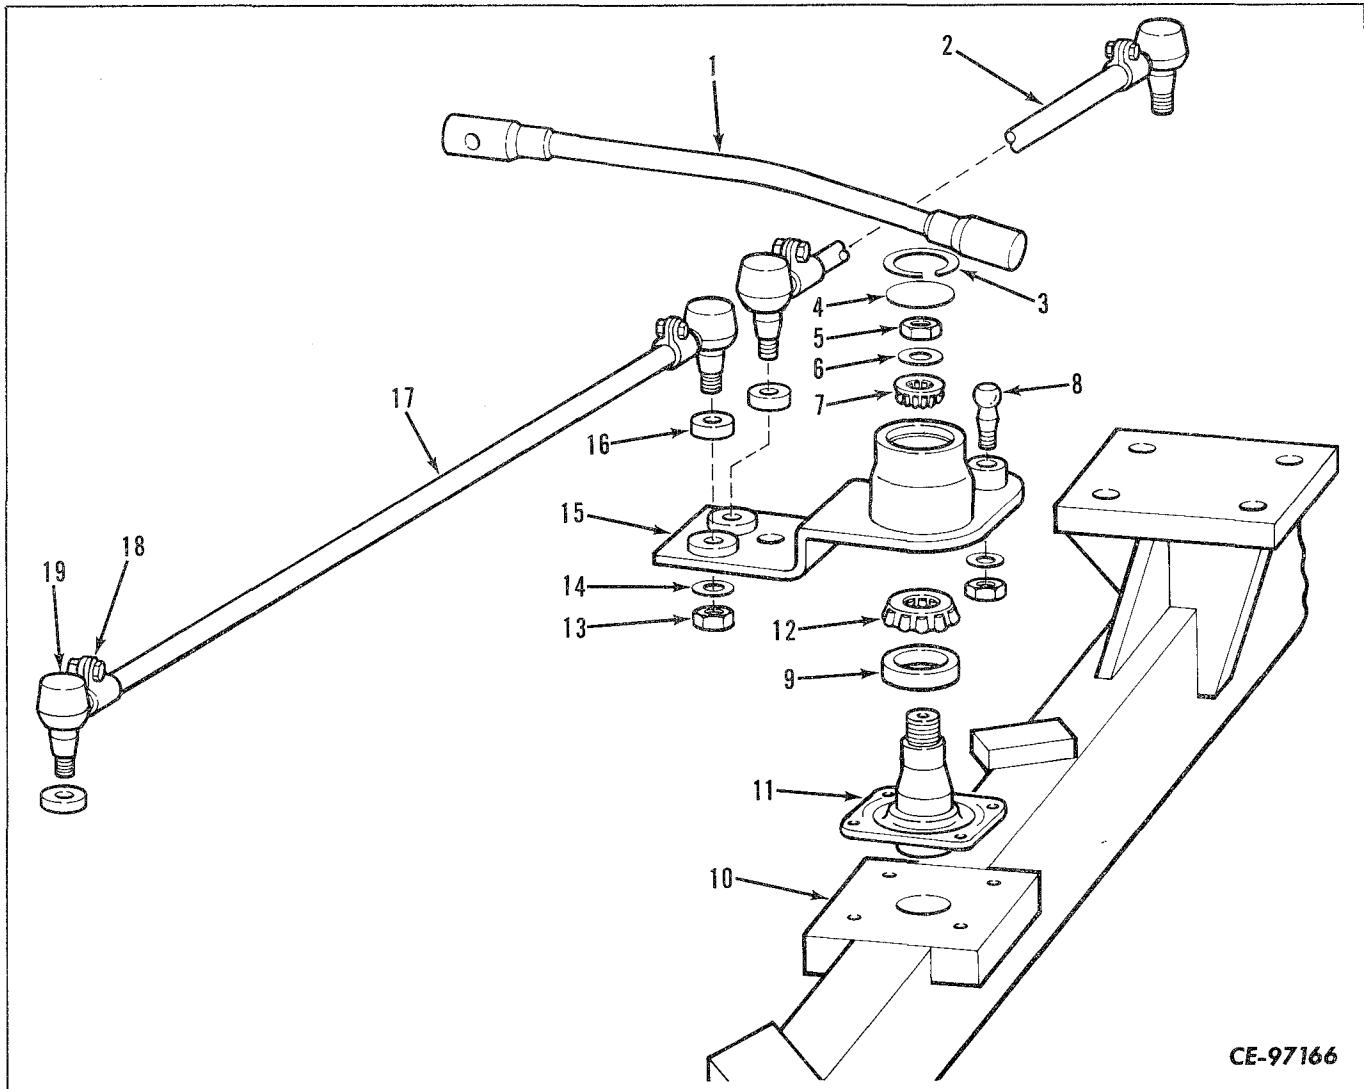

Figure 7-12
Disconnect the drag link (1, Fig. 7-12) from the bellcrank (15) assembly. Disconnect the hydraulic lines to the steering cylinder. Cap the open lines and cylinder ports to prevent the entrance of dirt.
Disconnect tie rods (2, 17, Fig. 7-12) from steering arms (6, Fig. 7-13) at outer ends and from bellcrank (15, Fig. 7-12) at inner ends. Tie rod ball socket assemblies (19) may be replaced if required, by loosening clamp (18) and unscrewing socket from rod. Discard grease seals (16). Disconnect power steering cylinder from axle and bellcrank (15, Fig.
Remove retaining ring (3, Fig. 7-12) and dust cover (4) from bellcrank bore. Remove nut (5), flat washer (6) and small bearing cone (7) from bellcrank bore. Remove bellcrank (15) from swivel pin (11). Remove large bearing cone (12) and grease seal (9) from bellcrank bore. Discard grease seal.
Remove cap screws, lock washers and nuts that secure bellcrank swivel pin (11, Fig. 7-12) to mounting pad (10) on axle. Drag link ball stud (8) need not be removed unless replacement is required.
Secure bellcrank swivel pin (11, Fig. 7-12) to mounting pad (10) with cap screws, lock washers and nuts. Tighten cap screws to recommended torque (refer to "SPECIAL TORQUES").
Install large bearing cone (12, Fig. 7-12) and new grease seal (9) in bellcrank bore. Position bellcrank assembly on swivel pin (11); install small bearing cone (7), flat washer (6) and nut (5). Tighten nut snugly while moving bellcrank back and forth to seat bearings. Back off nut and retighten to eliminate all bearing end play. A slight preload is more desirable than noticeable end play.
Install dust cover (4, Fig. 7-12) and secure with retaining ring (3).
Install tie rods (2, 17, Fig. 7-12) in steering arms (6, Fig. 7-13) and bellcrank (15, Fig. 7-12) using new grease seals (16). Secure tie rods with lock washers (14) and nuts (13). Tighten nuts to recommended torque (refer to "SPECIAL TORQUES").
Attach drag link (1, Fig. 7-12) to drag link ball stud (8). Screw adjusting plug in end of drag link until all end play between stud and drag link is removed. Align plug slot with nearest cotter pin holes and install cotter pin.